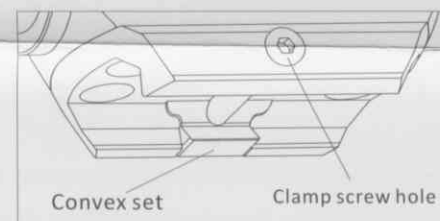

Fig 3
2. Firstly insert the Allen wrench into the clamp screw hole, then rotate to loosen the convex set , slid the sight into the weapon rail to a right position, and finally fasten the clamp screw.(Fig3)